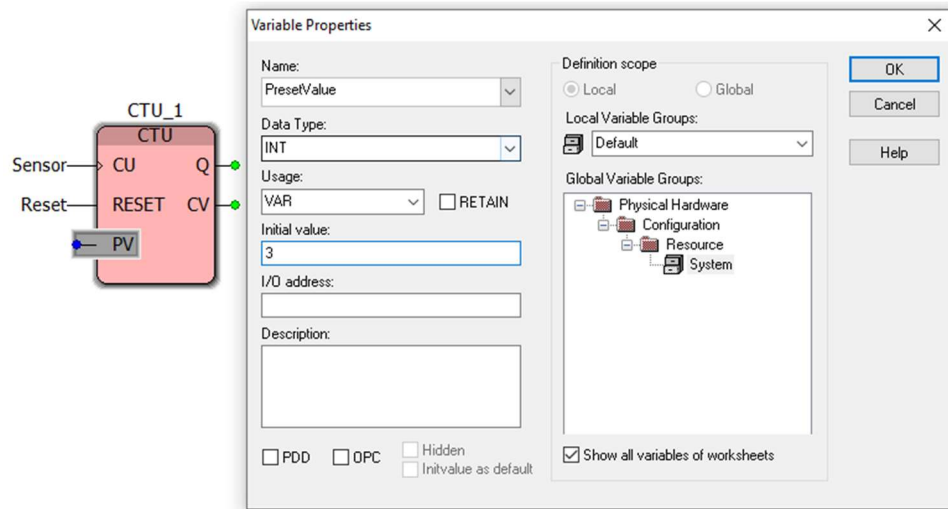

Figure 16: CTU Preset Value (PV) Special Variable Properties
- The PV Variable does have an initial value so make sure PV Variable Settings match Figure 16.